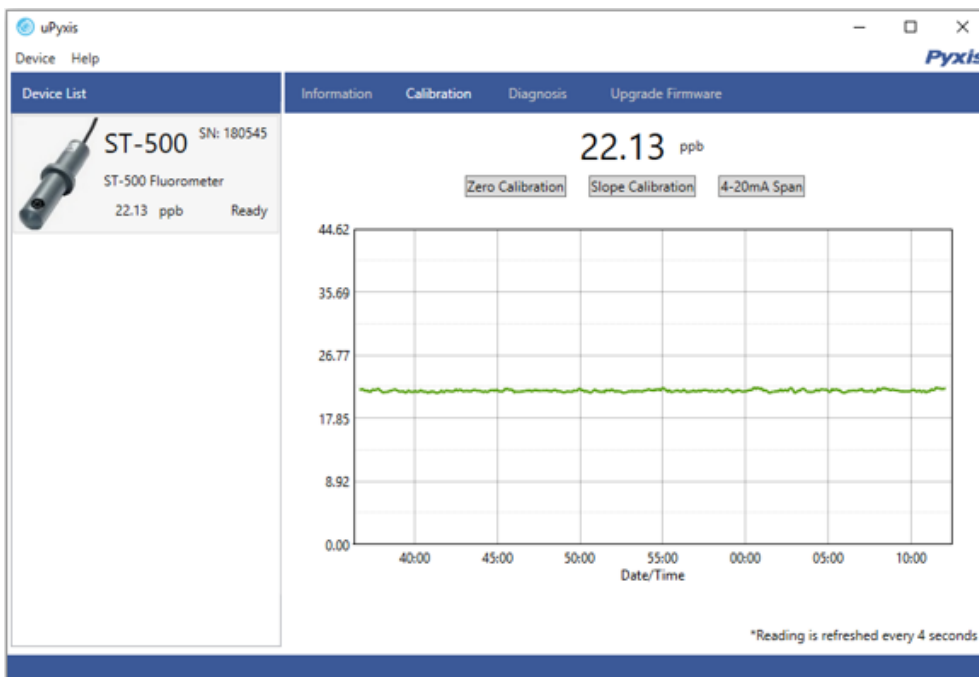

Figure 11. Calibration page
4. Select the Comm Port to make a connection (figure 11) (normally only one Comm port is identified by uPyxis. If more than one Comm port listed in the selection dropdown, you may try to select each one to see if a connection can be made. Alternatively, you may use the Windows Device Manager to identify the Comm Port that the Pyxis USB adapter is used.)